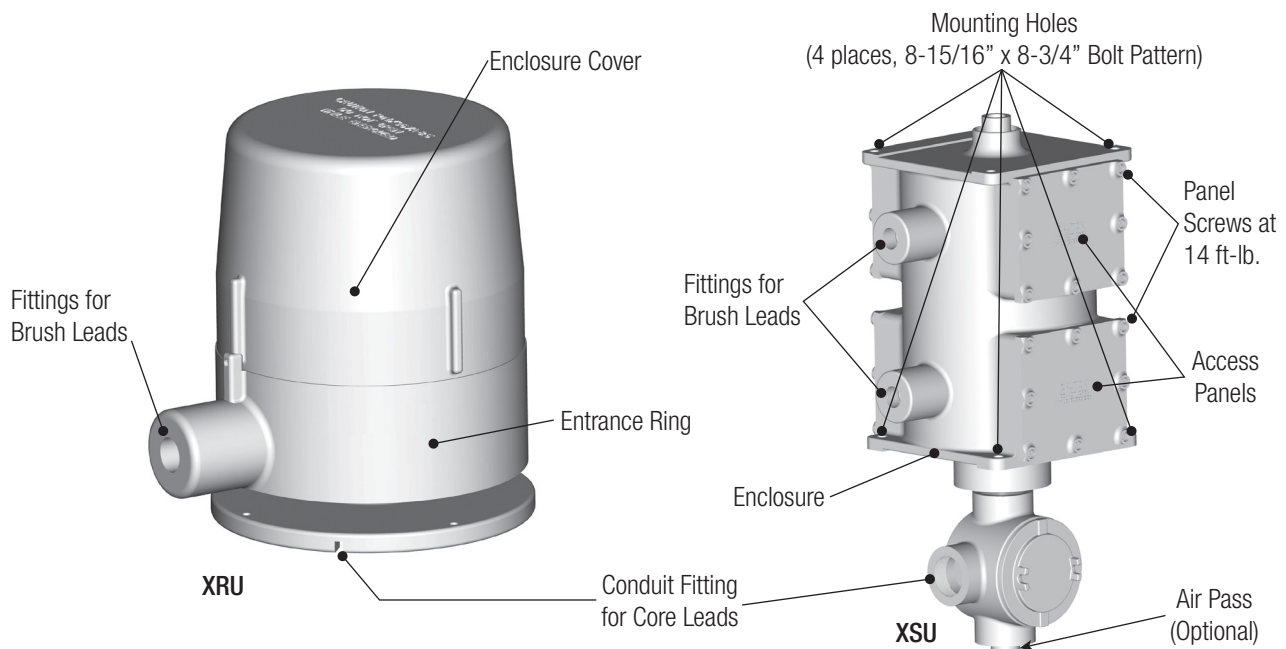

Figure 3-4
3.1.5 Explosion Proof Enclosures (XRU, XSU, and XSU with optional air pass) Figure: 3-4